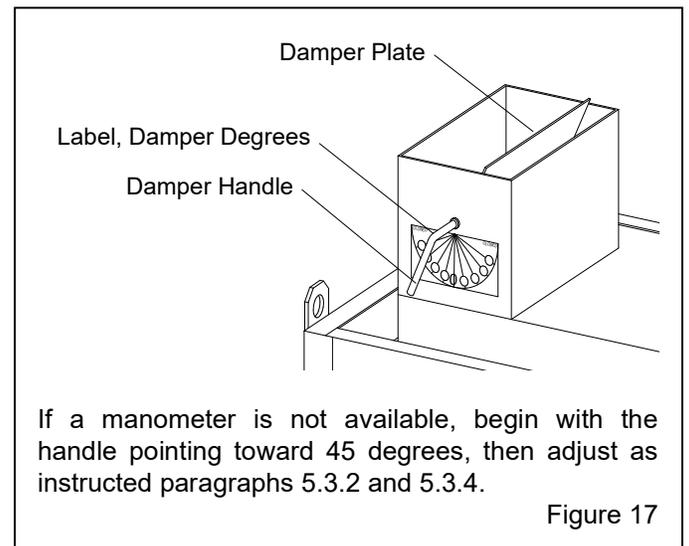

Figure 17
**5.3 Reclaimer Static Pressure (exhaust damper) Figure 17**
**5.3.2** Adjust static pressure by opening or closing the exhaust damper located on the top of the power module, as shown in Figure 17. The damper plate is aligned with the handle. When the handle is vertical, the damper is fully open; when the handle is horizontal, the damper is fully closed.